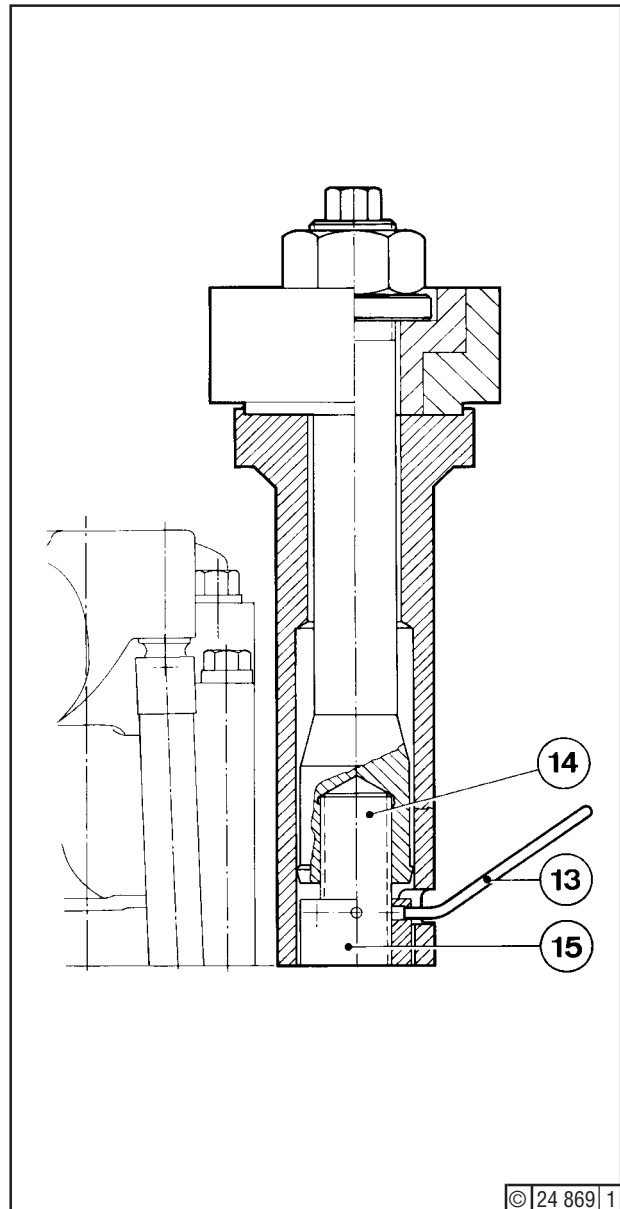

Fig. 3
Tightening Annular Nuts (Fig. 3)
When fitting new studs (14) - Fig. 3 - into the cylinder head, apply Deutz DW 57 locking compound to stud threads.